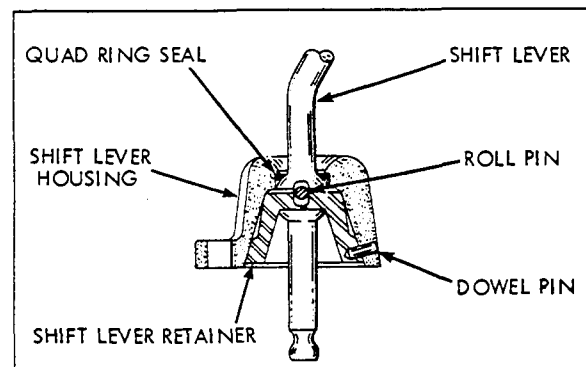

Figure 38 Dowel Pin Type Shift Lever
(b) Dowel Pin Type. Locate the dowel pin holding the retainer in the housing from the outside (Fig.38). Place a 1/4" flat face punch on the gasket surface directly over the dowel pin. Strike the punch sharply but lightly with a hammer to dislodge the retainer from the shift lever housing. Always use a new dowel pin for reassembly.
- (c) Remove the shift lever from the shift lever housing. Examine the roll pin in the ball of the shift lever, (Fig.38) if bent or worn, replace. When inserting a new roll pin in the ball, position so that equal lengths protrude from both sides of the ball.